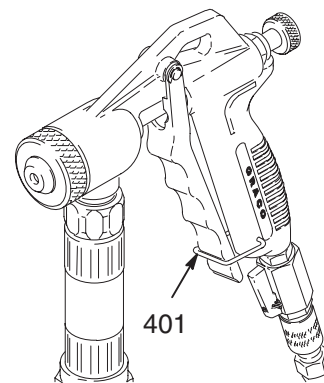

Fig. 13
- Turn the air restrictor valve (424) to decrease (–).
- Unscrew the fluid knob (418) to increase trigger travel.
**NOTE:** Maximum trigger travel occurs when trigger bail (401) (see Fig. 13) can hold trigger in open position.
Use the trigger bail (401) to hold the trigger (see Fig. 13) open to reduce operator fatigue.